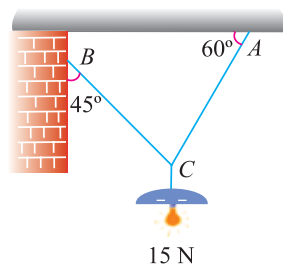

Fig. 5.27.
**Example 5.11.** An electric light fixture weighing 15 N hangs from a point C, by two strings AC and BC. The string AC is inclined at 60° to the horizontal and BC at 45° to the horizontal as shown in Fig. 5.27.